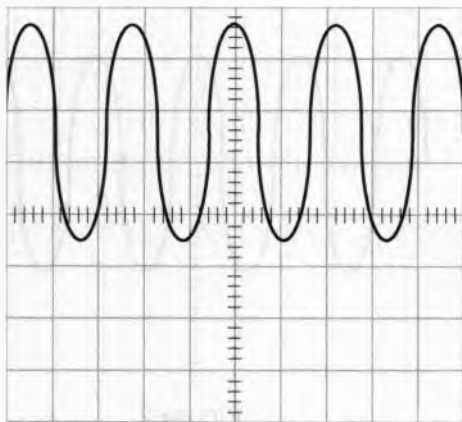
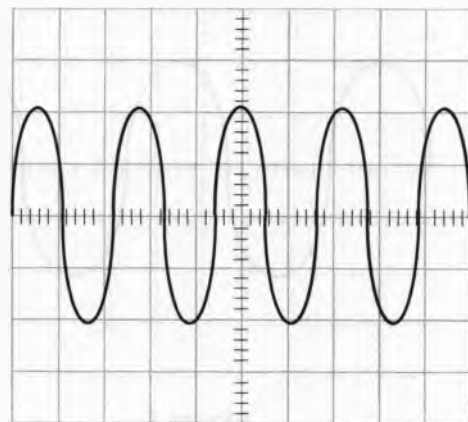

Figure 5
Figure 6
5. What oscilloscope control would you adjust to change the display from Figure 5 to Figure 6?